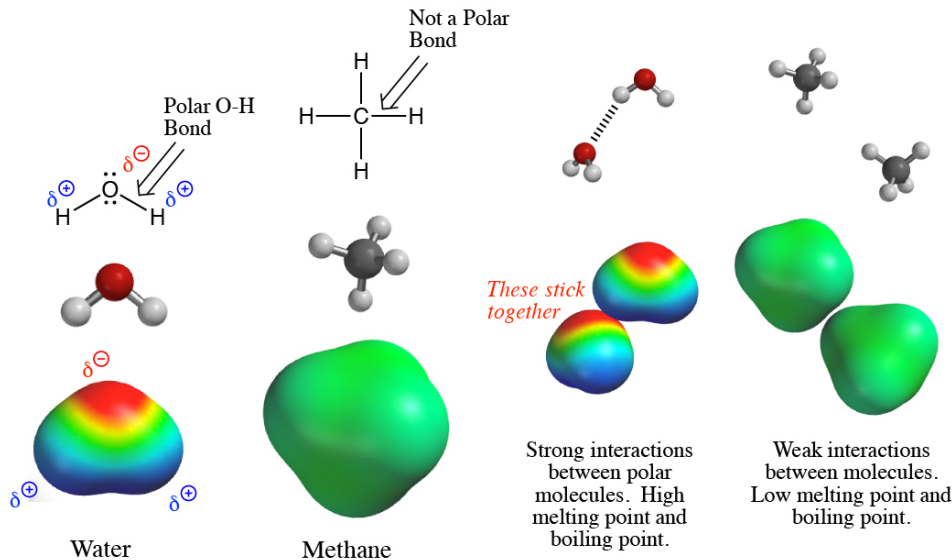

FIG. 9: Polar water and non-polar methane. Image from [1].
- the molecule is said to be polar. Water molecules and alcohols are examples of polar molecules, methane and other alkanes are examples of non-polar molecules (see Figure 9).